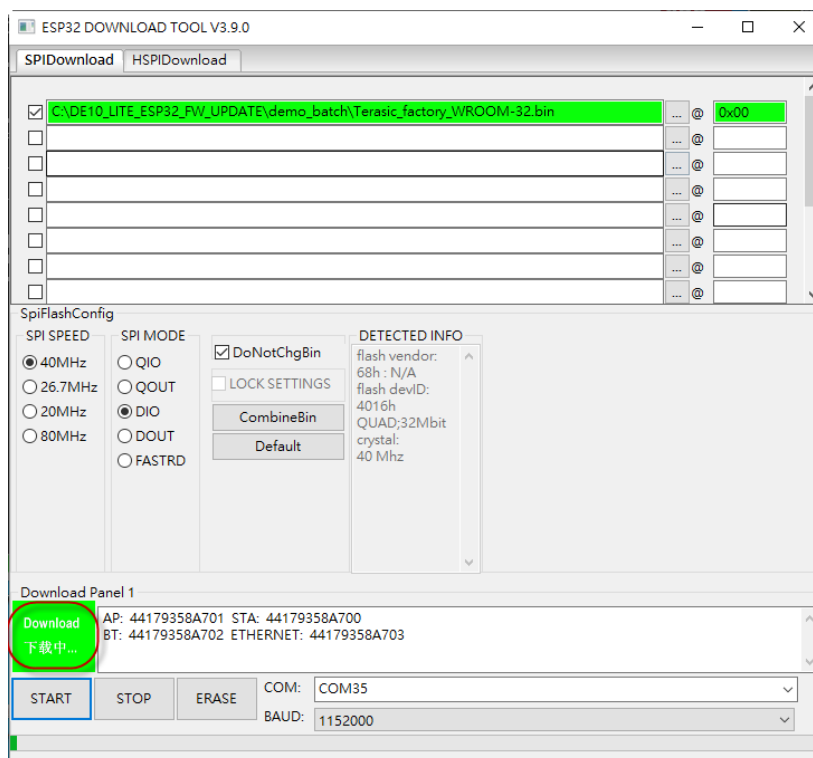

Figure 3-32 Firmware Download in Download Progress Status
10. When firmware download is progressing, users will see “DOWNLOAD” status on GUI, as shown in **Figure 3-32**.